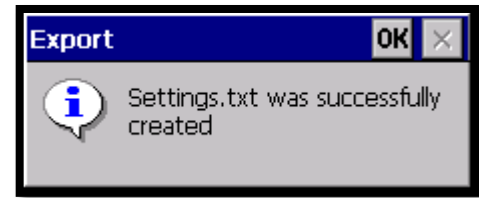

Figure 104. Confirmation of Saved Settings
- This will write the current settings to an ASCII text file named **Settings.txt**, *which will be saved in the currently selected storage location*. Any previous **Settings.txt** file will be overwritten (Figure 104). Change the name or save the file if it is desired to save the settings. Save this file on the USB flash drive in the root file location.